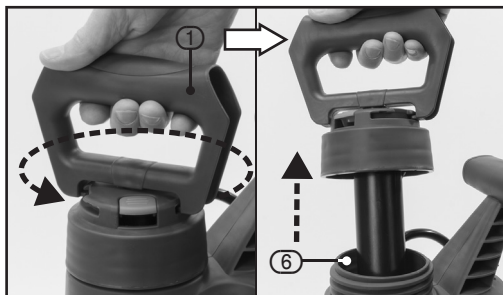

FIG. 6
9.1 FILLING THE SPRAY BOTTLE – FIGS. 6 – 8
- Unscrew the pump handle ① anti-clockwise to loosen and remove from the pump handle/assembly from the fill inlet ⑥.